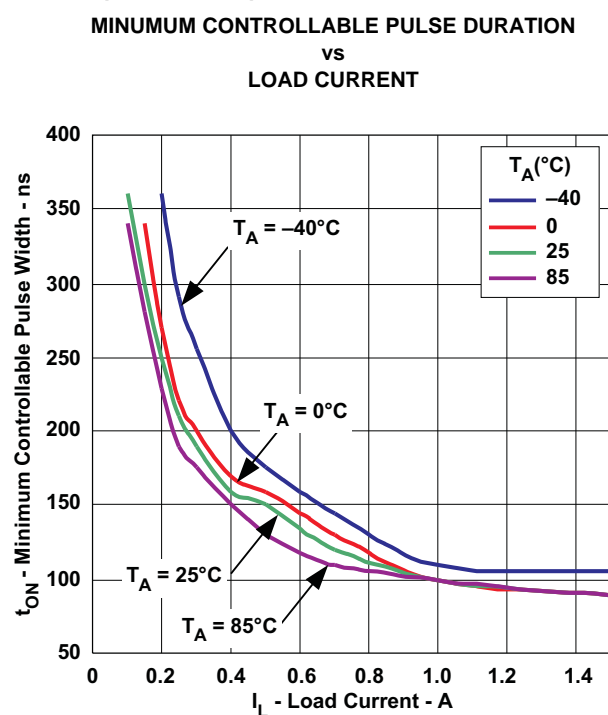

Figure 14.
(3) Ensured by design. Not production tested.
(4) See Figure 14 for ISWx peak current < 1 A.